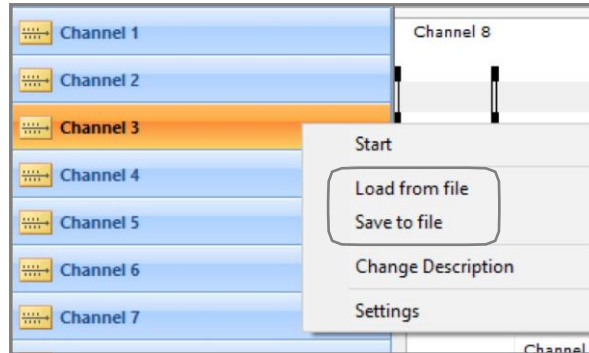

Figure 4.2.3
- By saving a protocol for a single channel right click on the channel and press save as shown in figure 4.2.3. The file will get the file extension plc.
This file can now be loaded into any other single channel of choice by pressing Load from file (figure 4.2.3). Select a single channel file (\*.plc) e.g. as shown in figure 4.2.4 the protocol 'Single-channel-test2' has been selected and loaded. The File names loaded into each channel is listed in the column File name.